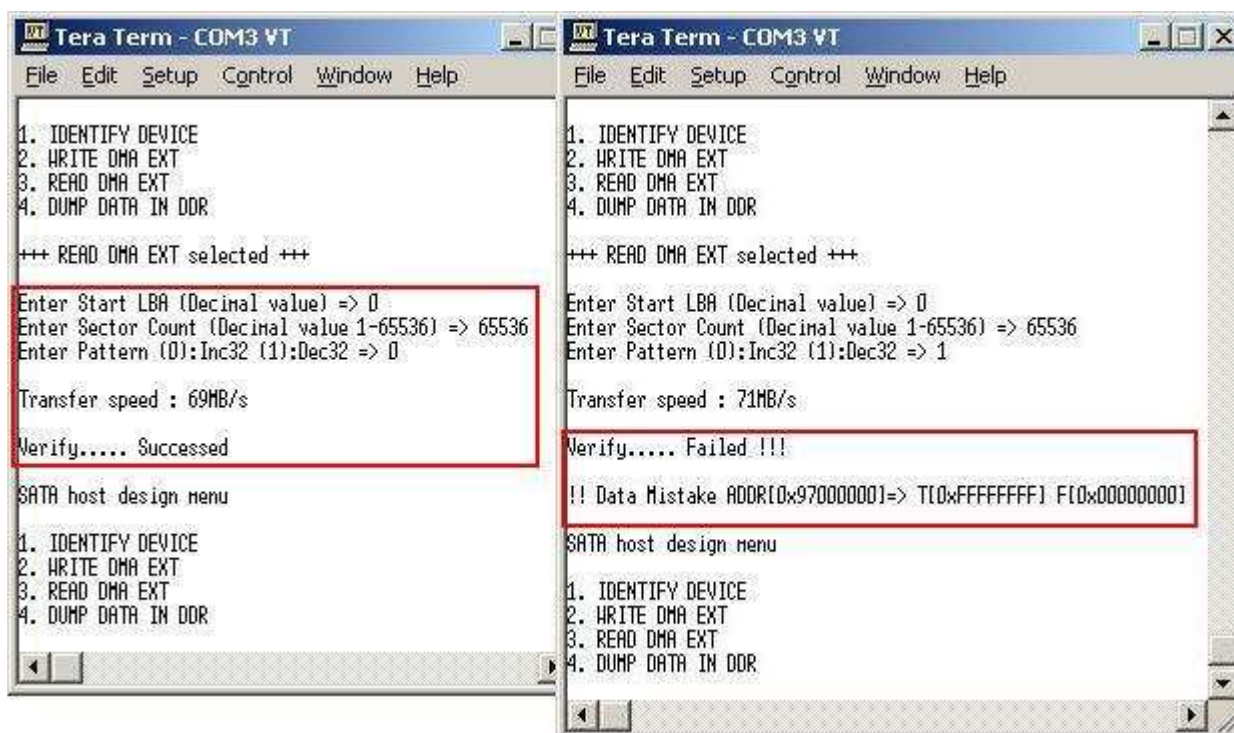

Figure6 Read Dma Ext menu
- “Enter Pattern (0)=>Inc32 (1)=>Dec32 :”- select verify pattern : ‘0’ is 32-bit increment pattern, ‘1’ is 32-bit decrement pattern
- After enter all inputs, wait until transfer finished. Read transfer speed will be displayed as shown in figure 6. “Verify Succeeded” will be displayed if there is no data error. “Verify Failed !!!” will be displayed with error address and its value if error is detected, as shown in figure6 at the right side.